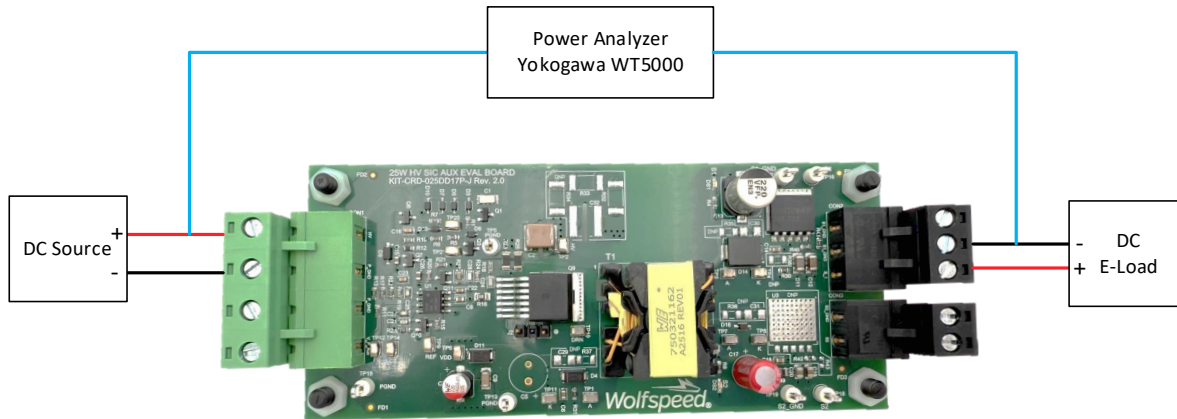

Figure 5: Connection Diagram for testing KIT-CRD-025DD17P-J
CON1 is the input high voltage male connector on the board and CON2 is the low voltage male connector for the main secondary output. KIT-CRD-025DD17P-J comes with the compatible female connectors- H11 and H10 for CON1 and CON2 respectively for a quick connection. These connectors can be used to connect to the input high-voltage supply and output load as shown in figure 5.
- Connect the KIT as shown in figure 5. If not using a power analyzer, use digital multimeters with appropriate rating to connect to TP2 (+) and TP5 (-) for input voltage measurement and TP16 (+) and TP17(-) for isolated output voltage measurement.